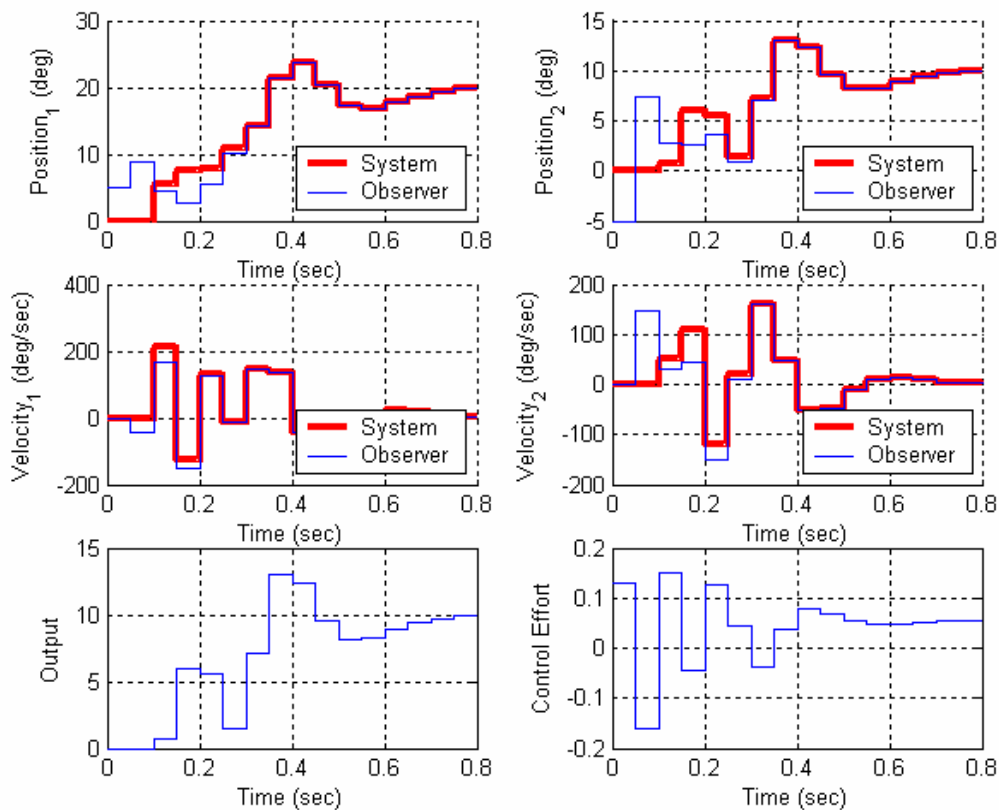

Figure 6: Results for problem 4b.
b) Place all the state feedback poles at 0.2, and the observer poles at 0.06 0.08 0.1 0.12 0.14. You will probably need to use the `place` command to place the observer poles here. Assume the position of the second disk is unavailable to the observer and the system output is the position of the second disk. The estimated position of the first disk is assumed to be 5 degrees and the estimated position of the second disk is assumed to be -5 degrees. All other initial estimates are zero. The real system is starts at rest. The velocity and control inputs are assume to be zero. For a 10 degree step input you should get the graph shown in Figure 6. Turn in your plot.